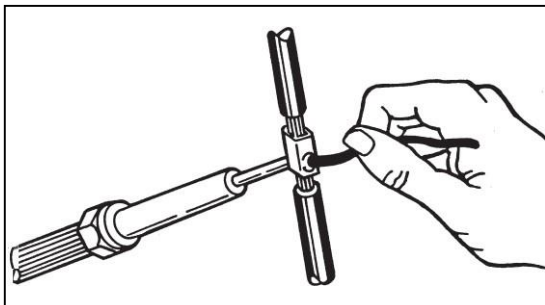

Figure 32
3. Apply solder to the hole in the splice clip as shown in Figure 32. Use just enough solder to produce an even flow through the splice clip